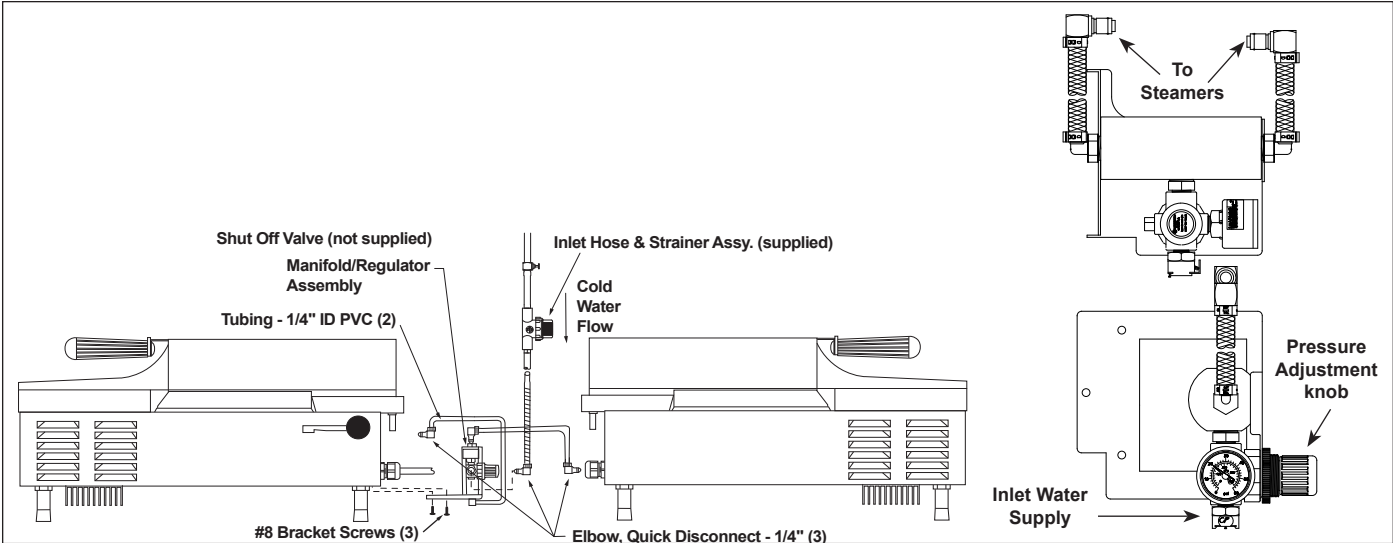

Figure 2A. Connecting Dual Manifold Water Pressure Regulator (P/N 7000235)
Your VS-250 requires a direct water hookup. An Inlet Hose and Strainer Assembly (Figure 2A and 2B) is supplied with the unit. A Water Pressure Regulator (P/N 7000235 to feed two steamers or P/N 7000314 to feed one steamer) must first be installed.
1. Install the regulator assembly to the steamer as shown in Figure 2A and 2B.
3. Push the white plastic tip on each 1/4" Elbow Quick Disconnect (Figure 2A and 2B) and hold for a few seconds to purge out air in the line and allow water to flow freely into a bucket with a steady stream.